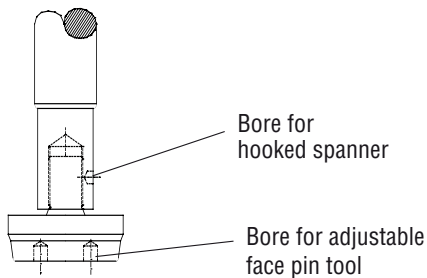

Fig. 3: Threaded Plug Head
7.1.1.4 On valves DN 80 / kv 63 and larger, the plug head can be unscrewed (see Fig. 3). Remove plug head from stem by securing valve stem against rotation with a hooked spanner and turning plug head with an adjustable face pin tool.
7.2.1.5 With soft seat version, loosen plug tip with appropriate tool and remove soft seat gasket (see Figs 3 + 5).
7.2.2.3 If the soft seat is damaged replace with a new insert (see Figs 3 + 5). Ensure the new insert is centred on the plug tip. The bevel of new insert must be aligned with the mating surface of the seat ring. As required, screw plug head back on to stem and torque as per table 3.